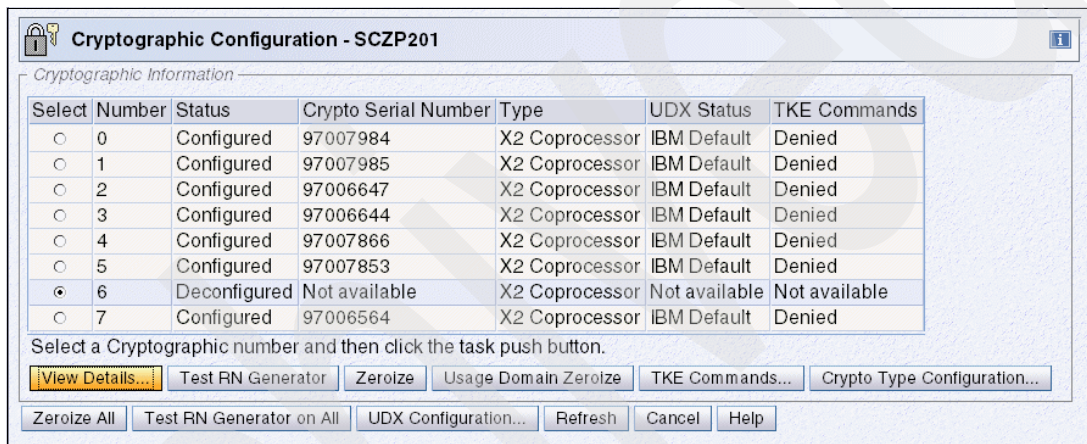

Figure 8-31 Cryptographic Configuration (Coprocessor)
- Click **Cancel** in the Crypto Type Configuration panel; the Crypto Configuration task panel is shown again. You can confirm that the crypto channel has been changed to a cryptographic accelerator type from the Cryptographic Configuration task panel, as shown in Figure 8-31.